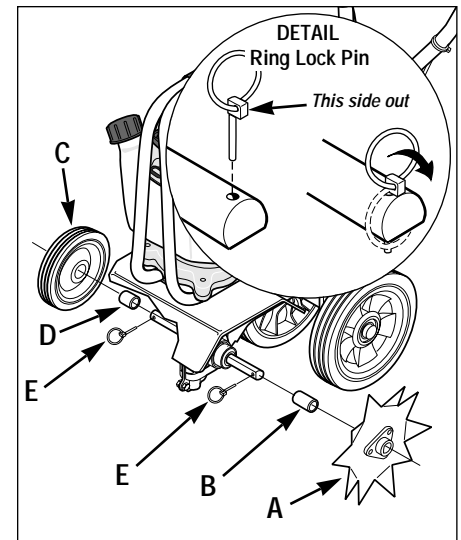
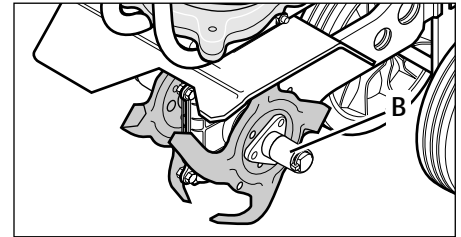

Figure 10: Border/Edger tine assembly.
Figure 13: Narrow tilling pattern.
1. Gather together the following parts: Border/Edger Tine (A, Figure 10); Long Bushing (B); Border/Edger Wheel (C); and Short Bushing (D).
5. Install the short bushing (D, Figure 10) onto the tine shaft. Then place the Border/Edger wheel (C) onto the same shaft – the wheel hub should face toward the tiller. Insert the ring lock pin through the rounded side of the tine shaft and snap the ring down over the shaft (see “DETAIL”, Figure 10).
6. Slide the long bushing (B, Figure 10) onto the opposite side shaft. Then install the Border/Edger tine (A) and secure it with the ring lock pin.
4. Slide one of the long bushings (B, Figure 13), provided with the unit, onto the shaft. Insert the ring lock pin through the rounded side of the tine shaft and snap the ring down over the shaft (see *DETAIL - Ring Lock Pin*, Figure 10, in Section 4).
5. Insert the ring lock pins through the rounded side of the tine shafts and snap the rings down over the shafts (see *DETAIL - Ring Lock Pin*, Figure 10, in Section 4).